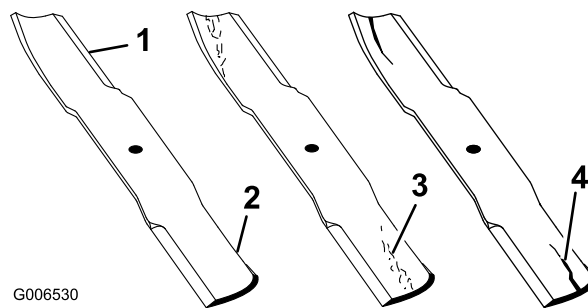

Figure 91
- Inspect the cutting edges (Figure 91). If the edges are not sharp or have nicks, remove and sharpen the blades. Refer to Sharpening the Blades.
- Inspect the blades, especially the curved area (Figure 91). If you notice any damage, wear, or a slot forming in this area (Figure 91), immediately install a new blade.